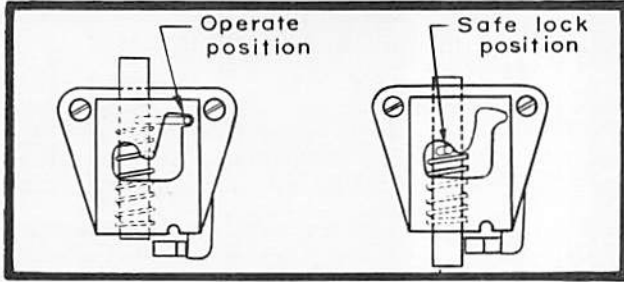

Figure 3
- Lock safety discharge interlock to prevent accidental discharge of stored energy mechanism. (Figure 3).
- Release discharge safety interlock. (Figure 3). NOTE: To avoid possible injury *NEVER* handle or touch any moveable part of the breaker when the stored energy mechanism is charged, without first applying safety interlock. Press close button on front cover. Breaker will close. Depress red trip button (located in charging handle) slowly. Breaker will open before trip button reaches its extreme stop.
- Charge stored energy mechanism and lock discharge safety interlock (Figure 3).